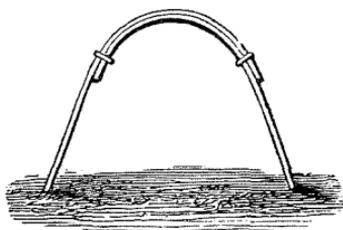

Fig. 1.
*Gipsy Tent.*—A traveller who has only a blanket, a plaid, or broad piece of material of any kind, with which he wishes to improvise a tent, may make a framework of long wands, planting their ends in the ground, bending their tops together, and lashing or wadding them securely; over this the blanket is thrown (fig. 3). If the sticks are sufficiently long and pliant, their ends should be bent over the roof half-way down the opposite side, as in fig. 1. This adds considerably to the strength of the arrangement.